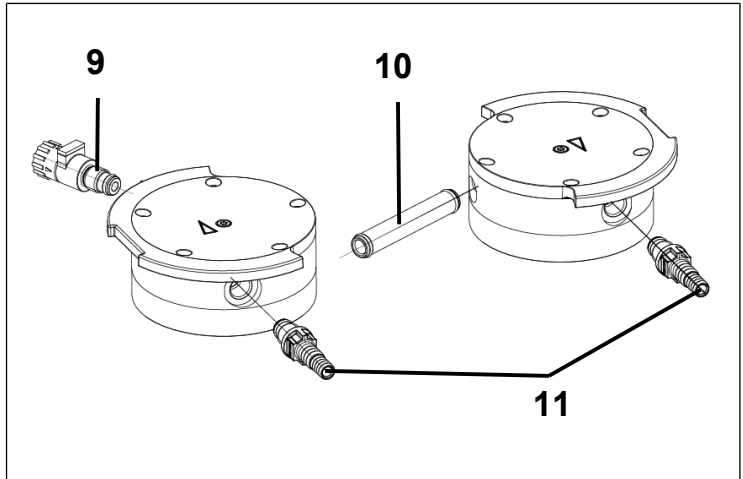

Fig.10: Changing O-rings
2. Pull the connection tube (10/ Fig. 10) out of the head cover (3).
3. Replace the two O-rings on the connection tube (10/ Fig. 10).
4. Loosen the internal cap screw (1) on both pump heads.
5. Remove the two pressure plates (2) together with the two internal cap screws (1).
6. Unscrew the gas ballast (9/ Fig. 10) from the head cover (3).
7. Replace the O-ring on the gas ballast (9/ Fig. 10).
8. Screw the gas ballast (9/ Fig. 10) into the corresponding head cover (3) as far as it will go. Then turn it back again until the surface is oriented upwards.
9. Unscrew the hose connections (11/ Fig. 10) from the head cover (3) using the tool supplied.
10. Replace the O-rings on the hose connections (11/ Fig. 10).
11. Screw the hose connections (11/ Fig. 10) into the head cover (3) hand-tight using the tool supplied.
1. Remove the head cover (3) from the intermediate plate (6).
2. Remove the old valve plates/seals (4).
3. Carefully clean the intermediate plate (6) (if there are deposits on it).
4. Insert the new valve plates/seals (4) into the corresponding seats on the intermediate plate (6).
6. Dispose of the old diaphragm (7) and valve plates/seals (4) properly.
7. Insert the connection tube (10/Fig. 10) into the head cover (3).